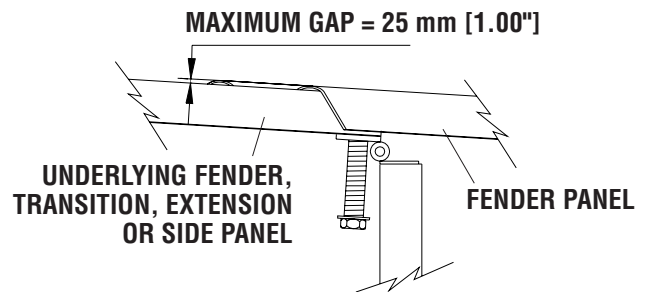

Figure 84
10. Check **gaps between Fender Panels**. The maximum gap allowed for these overlapping parts (including Fender Panels overlapping panels behind the System) is 25 mm [1.00"] (see figure 84).